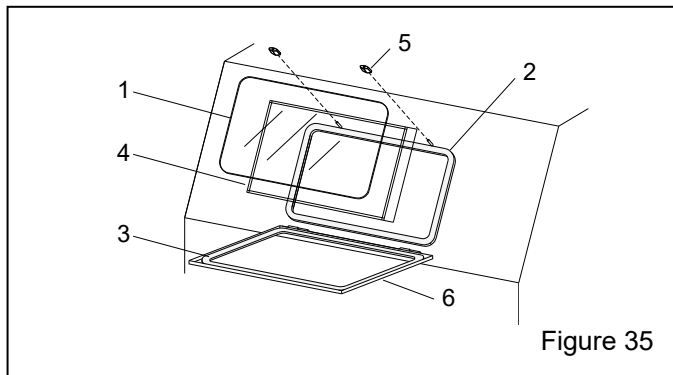

Figure 35
9.3 View-Window Assembly – Figure 35